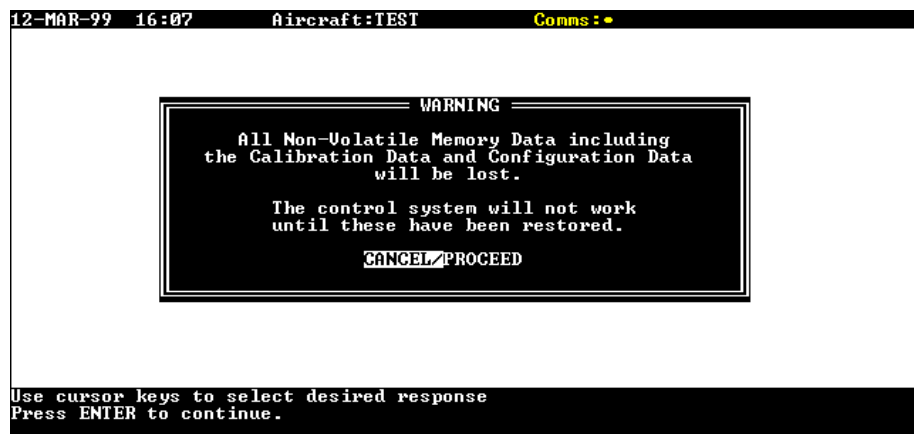

Figure 3.30 - Restore Factory Defaults Screen
- (5) Restore Factory Defaults
- (a) Select 'Restore Factory Defaults' from the 'System Information Menu' and press <ENTER>. The 'Restore Factory Defaults' screen will be shown on the MT display (Ref. Figure 3.30).